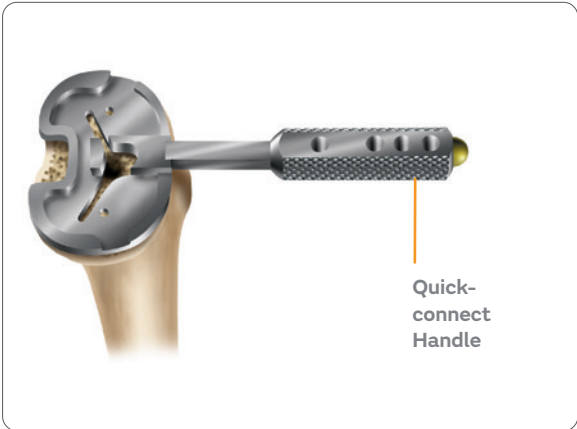

Figure 40
1. Attach a quick-connect handle to a stemless trial one size below the femoral component size and place on the cut tibia to assess coverage (**Figure 40**). As needed, additional sizes should be templated using the stemless trials.